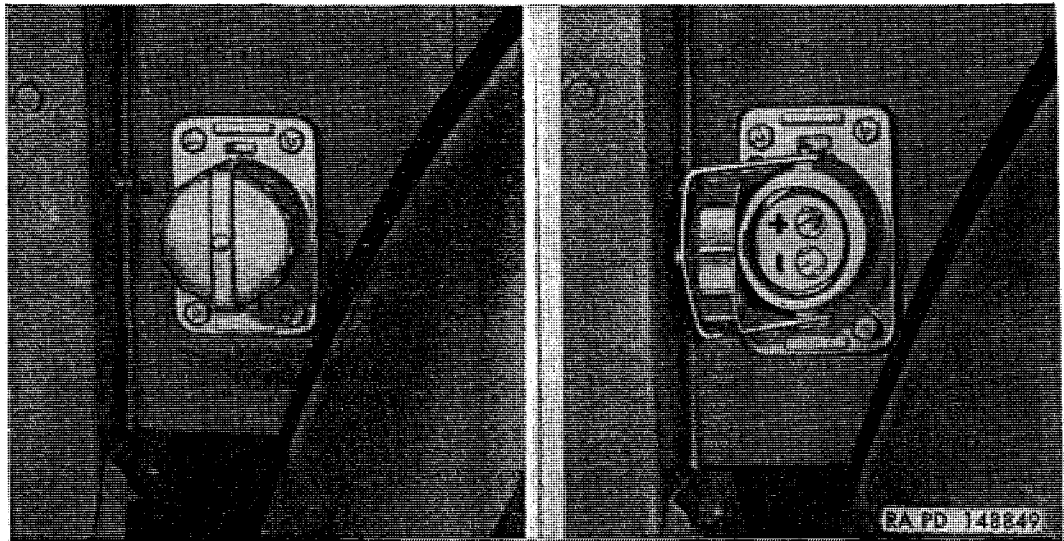

Figure 157. Slave battery receptacle with cover closed and open (used only on early M135).
c. Slave Battery Receptacle (Some Vehicles) (fig. 157). Slave battery receptacle, used on some vehicles, is installed at right side of cab at rear of fender. Receptacle is connected in parallel with the batteries. Receptacle is used to charge the batteries from an external source, or to connect a slave battery to assist in starting engine. Receptacle also provides a convenient source of battery current for operating external electrical accessories.
- (1) Remove right fender (par. 304b).
- (2) Disconnect slave receptacle positive (+) cable No. 49 from right battery positive (+) terminal. Disconnect slave receptacle negative (-) cable No. 50 from ground at dash behind generator-regulator.
- (3) Remove nut and bolt attaching two cable clips to floor sill. Remove clip from each cable.
- (4) Remove four nuts and bolts attaching slave battery receptacle (fig. 157) to side of cab. Withdraw receptacle and cable from hole in cab.